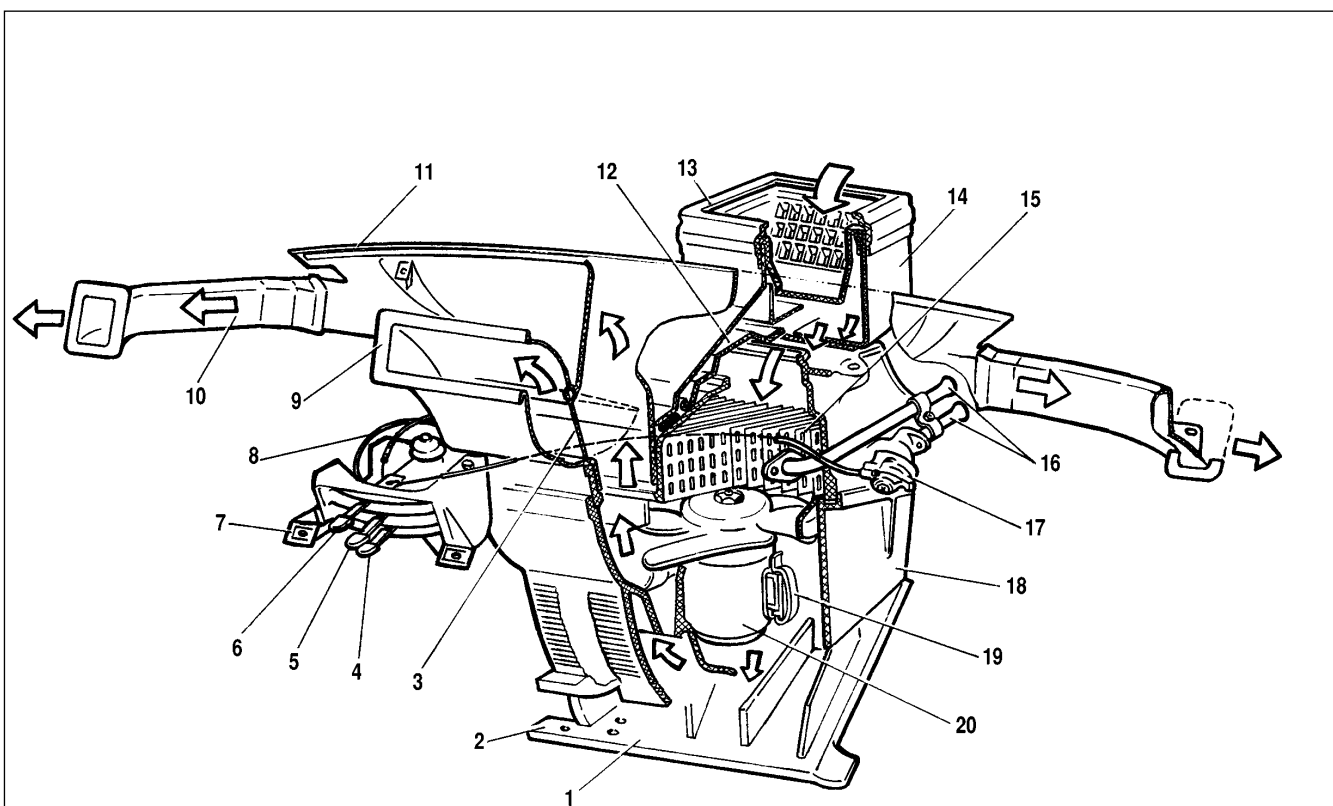

Fig.8-33. Heater unit:
- fully shift rightward knob 6 (Fig.8-33) of heater tap 17 and drain coolant from the engine cooling system;